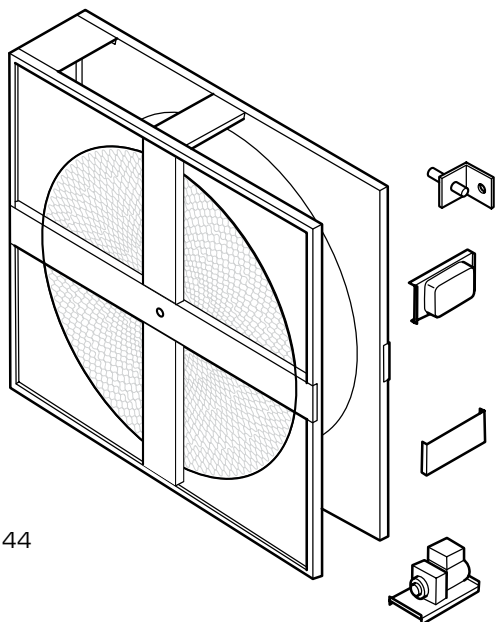

Fig. 44
A. See Fig. 44. Withdraw the cassette from the Air Handling Unit casing just so far that the rotor shaft retaining screw is accessible. Remove the drive belt from the motor pulley. Then dismantle the motor base plate, centre spacer, rotation monitor and the speed controller mounting bracket.